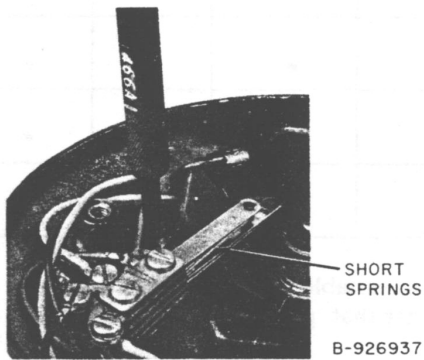

Fig. 8—Short Spring Contact Adjustment
**3.06** On short springs, the 466A tool should be applied close to the spring pile-up, bending slightly (Fig. 8).